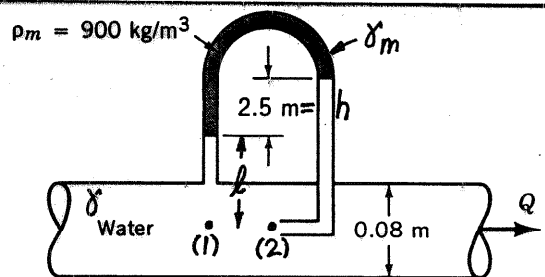

FIGURE P3.47
3.47 Determine the flowrate through the pipe in Fig. P3.47.